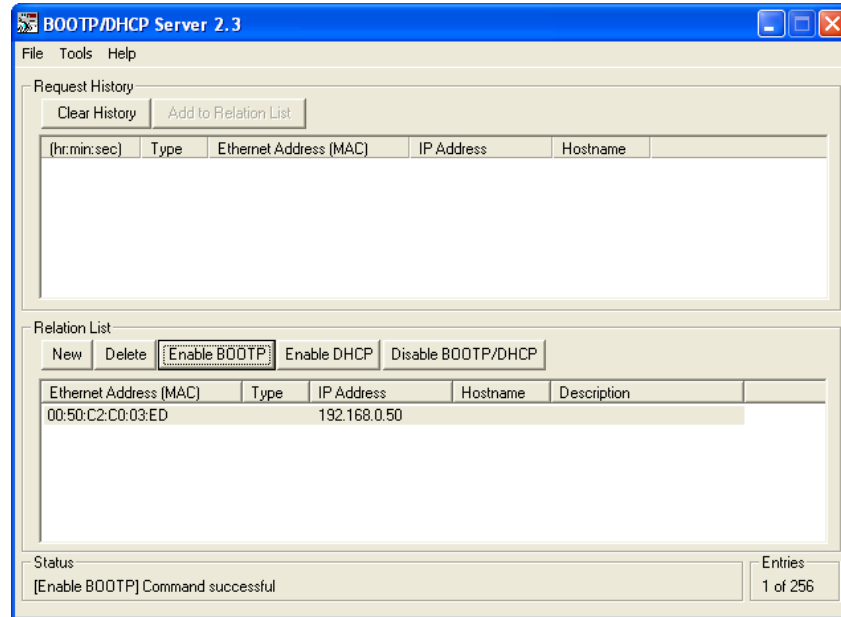

Figure A.4 Bootp Enabled
- 3) Click on your new entry in the "Relation List". This will activate the buttons in the pane. Click on the [Enable BOOTP] button. The message "[Enable BOOTP] Command successful" should appear instantly in the status line at the bottom of the window. Figure A.4 shows the state of the RA Bootp Server software at this point.